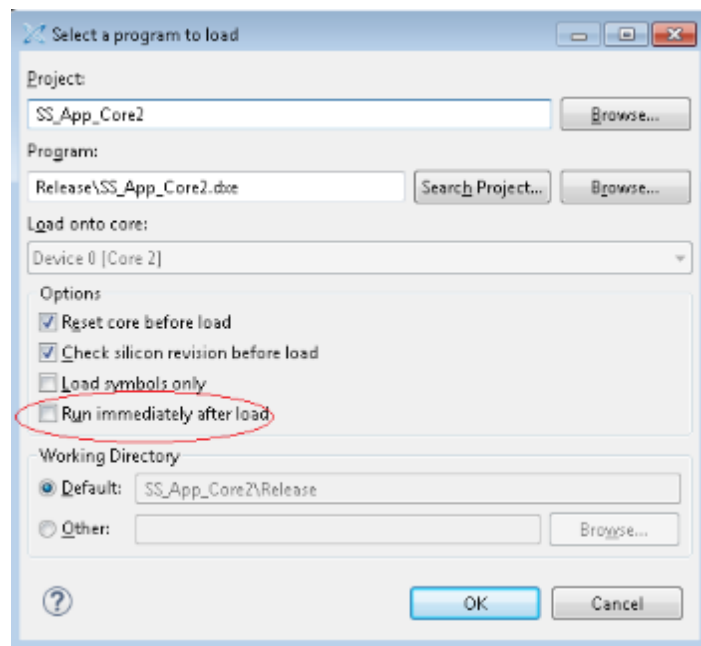

Figure 18: Select a program to load window
7. Double click on 'SS_App_Core2.dxe' of Core 2 and uncheck 'Run immediately after load' option as shown in Figure 18.